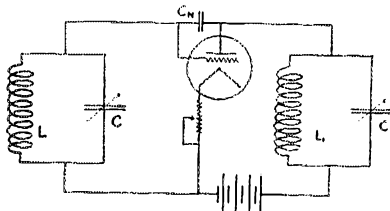
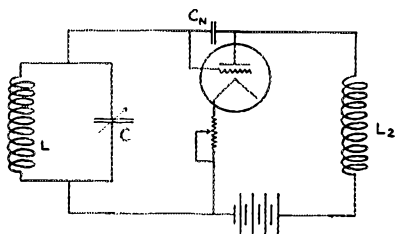

FIG. 1
FIG. 2
A fundamental circuit is shown in Fig. 1. When the tuned circuits LC and L_1C_1 are resonant or approximately resonant the reaction currents through C_n will be of sufficient value to give rise to sustained oscillations. This assumes that the grid return is so connected that oscillations are possible—that is, the grid return is connected to the negative filament battery. By substituting a small inductance, L_2 , in the place of L_1C_1 , we will have a circuit as shown in Figure 2. In this instance, if the inductance L_2 is small the reaction currents passing through C_n are so limited that oscillations can not be sustained.
Now, if we bring the circuit L_2C_1 into inductive relation with L_1 , as shown in Figure 3 (instead of putting it directly in the circuit as in Fig. 1) we will find it possible again to produce oscillations, providing the input circuit LC and the output circuit L_2C_1 are in approximate resonance. A useful explanation for this condition resides in the fact that anything closely coupled to a circuit acts partially as if it were in the circuit. The nature and extent of this effect depend on (A) the closeness of the coupling and (B) the ratio of turns in the two coils. In this case we are concerned with the ratio of turns of the coils L and L_1 ,